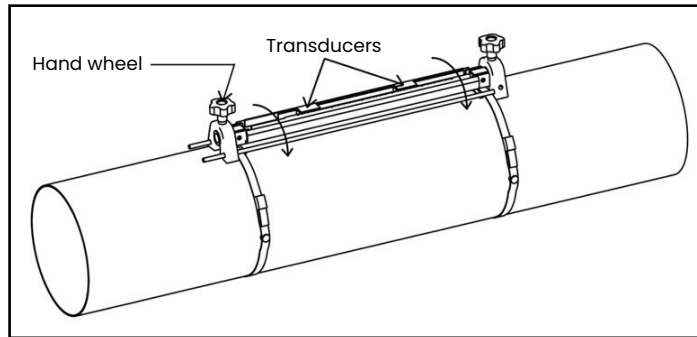

Figure 12: Transducers Rotated into View
- a. Loosen both transducers and rotate the fixture so that the transducers are in view (see Figure 12 below).
- a. Rotate the fixture so that the transducers are in view (see *Figure 12* on page 12).